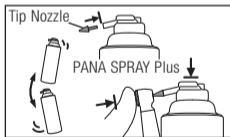

Fig. 35
- 2 Shake the can 3 or 4 times, then gently press in the push button to directly spray into the bur insertion hole (Fig. 35).